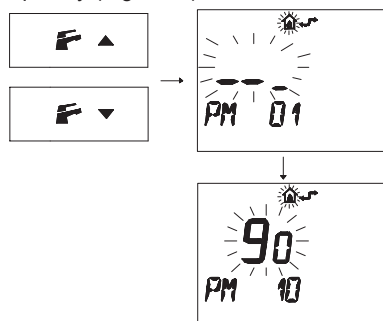

Fig. 8.28
- Press buttons **F** and **▲** or **F** and **▼** to display the "PM10" program for selecting the ignition frequency (Fig. 8.28).
In Fig. 8.28 a SET programmed at **90** is displayed corresponding to a re-ignition time of about 3 minutes.